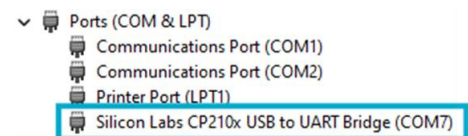

Figure 3.2: Device manager
3. Connect (1) to (2) using the supplied USB cable that is capable of transmitting data.
4. Open "Device Manager" on the PC to see which COM-port is being occupied by the PSC-ANY-EXT (Figure 3.2).